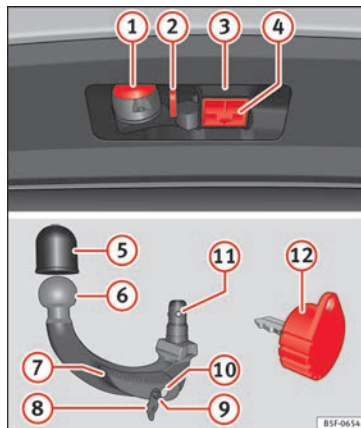

Fig. 178 Towing bracket device support / detachable ball joint / key.
Key to » **Fig. 178**
- Remove the hook housing cap **(4)** » **Fig. 178** downwards.